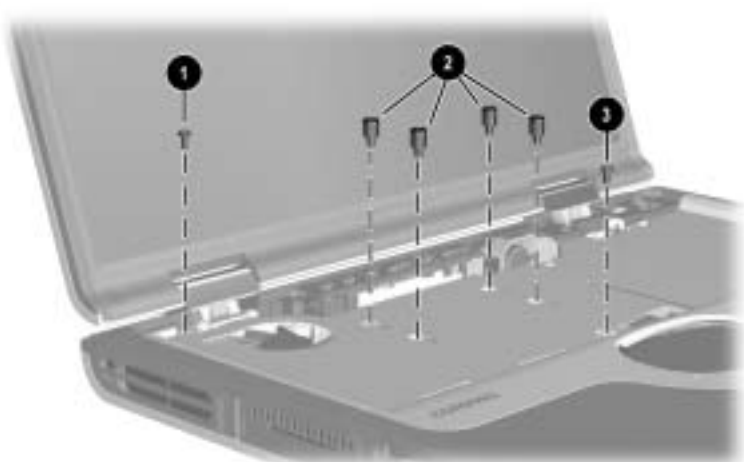

Figure 5-20. Removing the Heat Spreader Screws
- ❑ One TM2.5 × 5.0 screw ❶ next to the fan (Figure 5-20)
- ❑ Four spring-loaded TM2.5 × 14.0 shoulder screws ❷